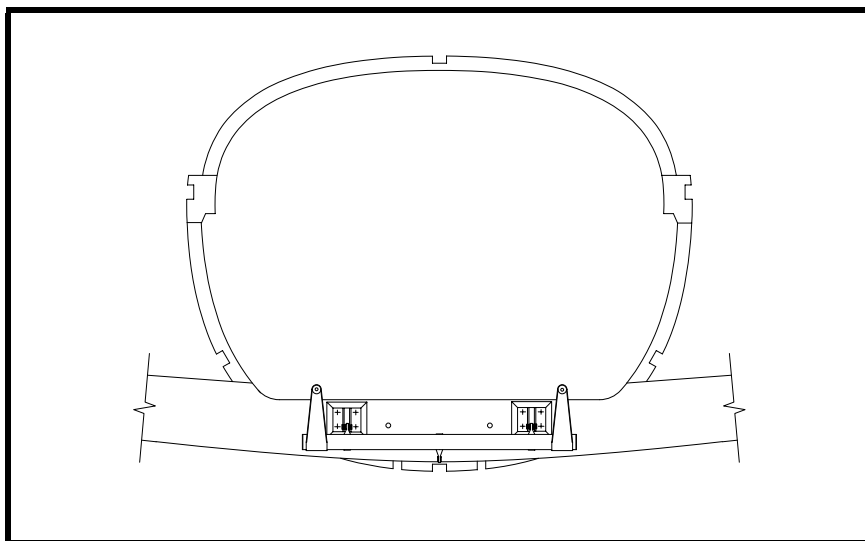

Figure 17
- ❑ Install the four P/N 764 brackets on the aft face of the front wing spar. Use a drill press to drill these holes. To assure alignment, P/N 701 should be in place during this drilling. See Figure 17.